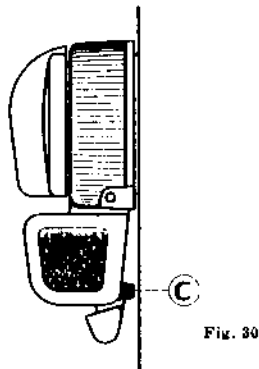

Fig. 30
3. Push lever a (Fig. 28 and 29) to the back in the direction of the arrow, in order that it comes into the position shown in Fig. 30.
In this way the locking catch c (Fig. 30), which determines the width of stitch for the head and for the lock, comes into its working position.
5. After the stop c (Fig. 30) has been brought into the working position by moving the lever a, take hold of the lower part 12a of the knob 12, draw it to the front end, swiveling it in such a way that the pawl c comes to lie against the stop pin I. On the scale the number 1.5 must stand approximately opposite the mark b.